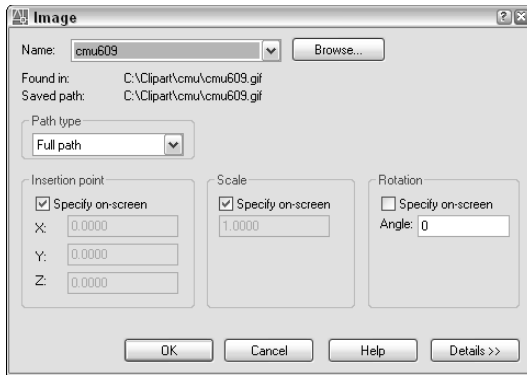

Figure 27-5: The Image dialog box.
Locate the image that you want to insert and choose Open. The Image dialog box opens, as shown in Figure 27-5; this dialog box lets you specify how to insert the image. You can specify the insertion point, scale, and rotation in the dialog box or on-screen. This dialog box is very similar to the Insert dialog box that you use when inserting drawings and blocks.
- ♦ **Attach** inserts an image, opening the Image dialog box (refer to Figure 27-5).